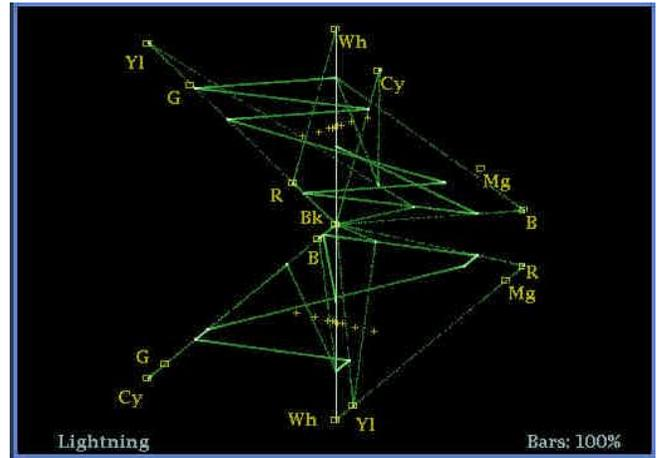
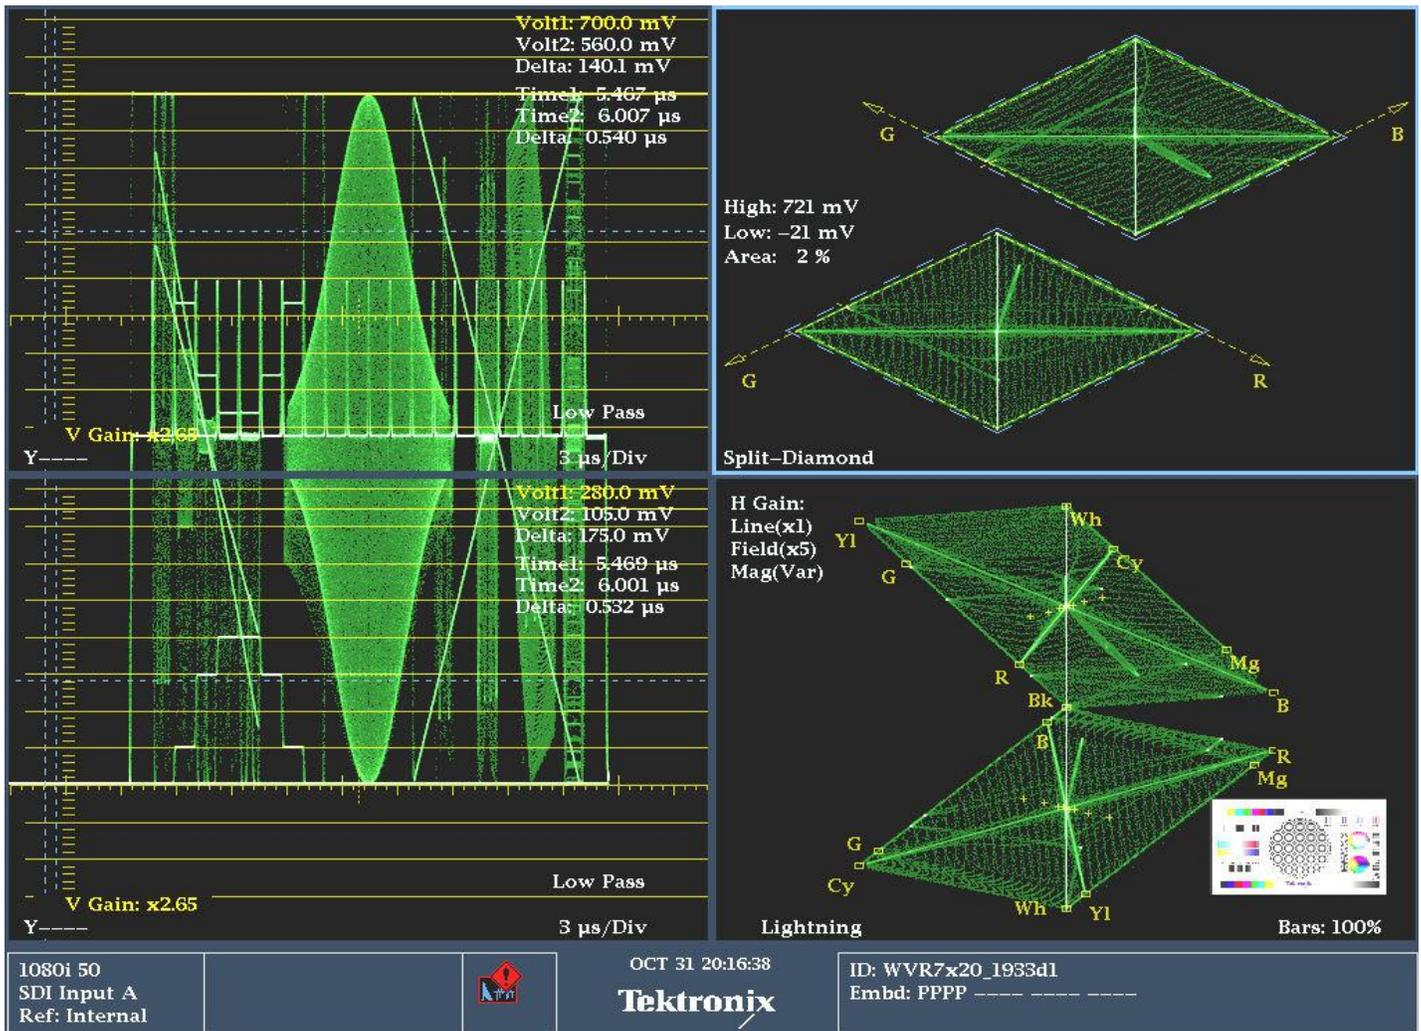

Figure 2: Using the Lightning display
Figure 3: Configuring the four display windows on a waveform monitor to see the luma level with the Lightning and Diamond displays.
**Using the Lightning Display (Figure 2):** Using a conventional color bar pattern, this display presents many advantages to the alignment of the cameras by using gain and Mag to expand the black region of the display. The Lightning display can also be used in production as it works in both SD and HD formats, and can be used during the acquisition of material to ensure the correct levels of the YPbPr signal are setup. The Lightning display is the perfect complement to the "Diamond" display that works in the RGB space. For DITs, clever configuration of the four display windows on a waveform monitor can allow you to see the luma level with the Lightning and Diamond displays (Figure 3).